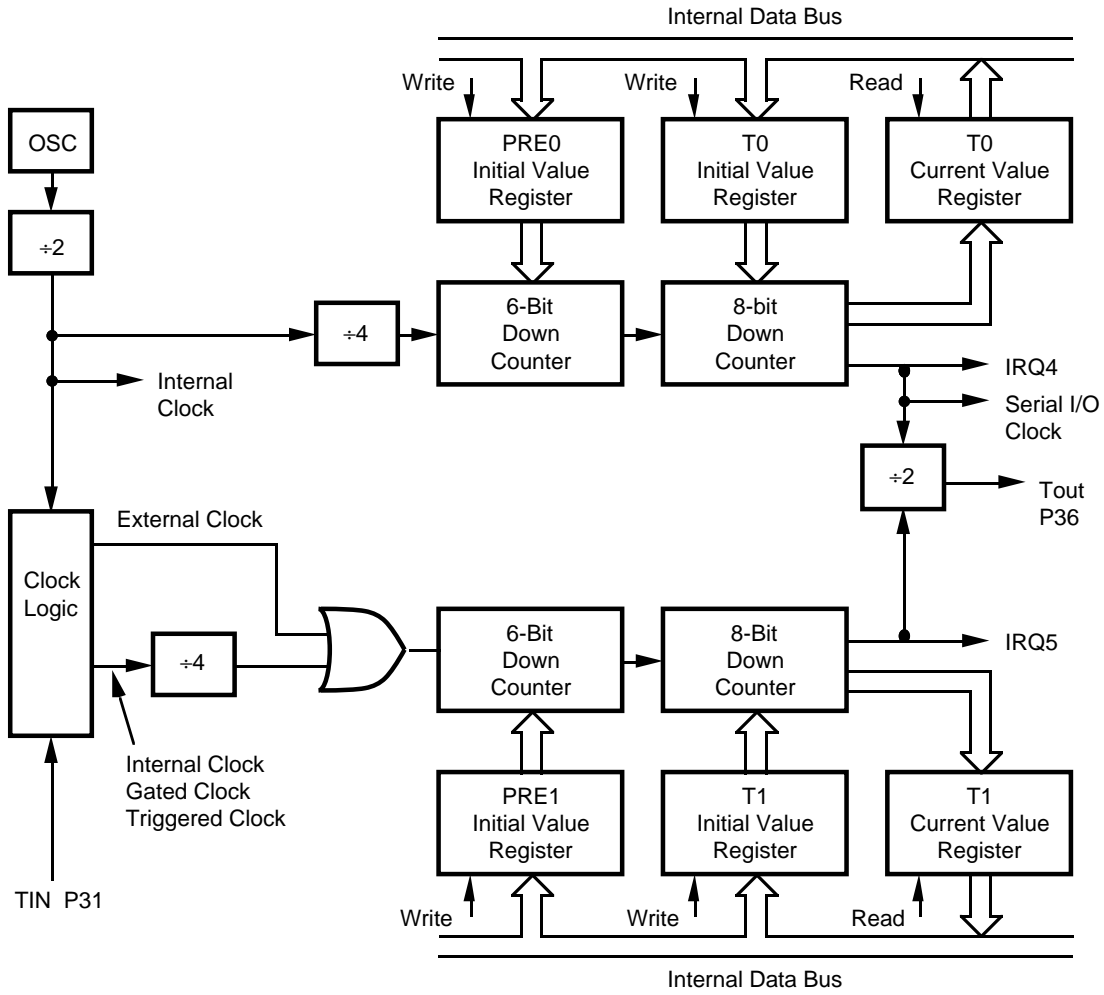

Figure 22. Counter/Timers Block Diagram
**Counter/Timers.** There are two 8-bit programmable counter/timers (T0-T1), each driven by its own 6-bit programmable prescaler. The T1 prescaler can be driven by internal or external clock sources; however, the T0 prescaler is driven by the internal clock only (Figure 22).